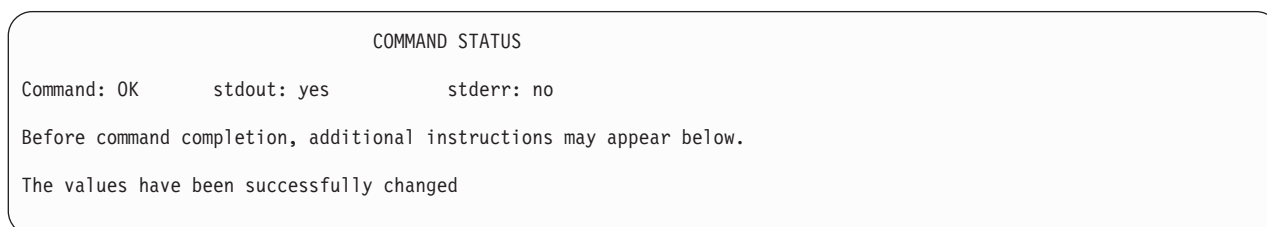

Figure 2-137. *COMMAND STATUS* Screen – *OK*
10. When the execution of the command is complete, the screen shown in Figure 2-137 displays. "OK" appears in the "Command" field.